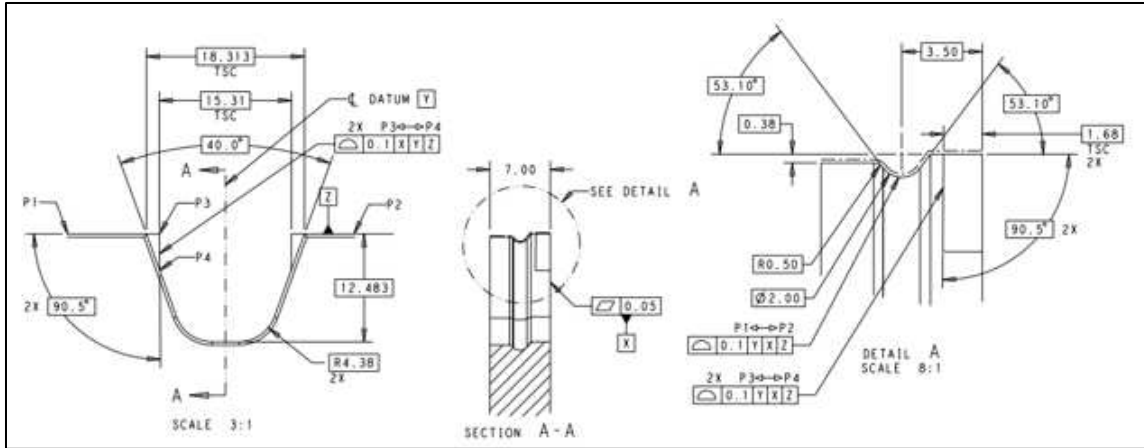

Figure 38: Recommended enclosure geometry for headers 2339032-X
- iii. Groove geometry should be included on mating enclosure. Dispense bead of sealant into the groove and secure the header assembly into place (See figure 38).